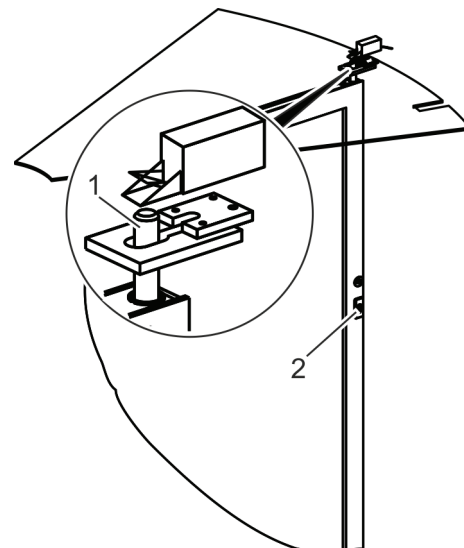

Fig. 29 Unlocking the rod locking device (option)
Release the rod locking device using the lock cylinder (Fig. 29/2).
- » The rod locking device (Fig. 29/1) is located in the wing.